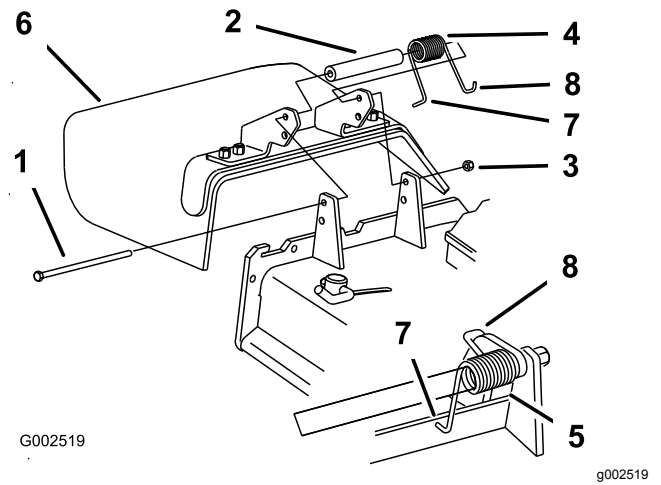

Figure 102
1. Remove the locknut, bolt, spring and spacer holding the deflector to the pivot brackets (Figure 102).
Note: Make sure that the **L** end of the spring is installed behind the deck edge before installing the bolt as shown in Figure 102
5. Place the **J**-hook end of the spring around the grass deflector (Figure 102).